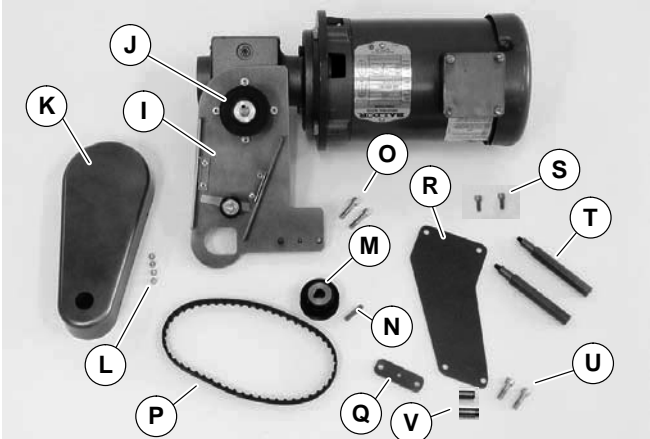

Figure 2
1. Typical components (Figure 2)
NOTE: Support Plate Spacer (Q of Figure 2) required for 2" & 3" wide conveyors only.
NOTE: 4100 conveyors do not include items Q through U of Figure 2.